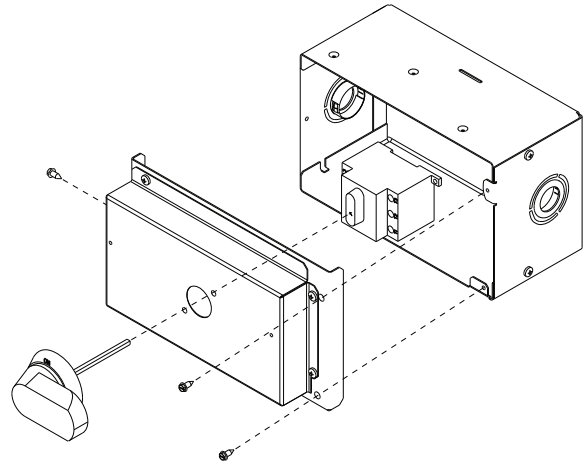

Fig. 30 — Handle and Shaft Assembly for NFD
2. Remove (3) hex screws on the NFD enclosure - (2) on the face of the cover and (1) on the left side cover. See Fig. 30.
10. Secure the handle to the painted cover with (2) screws and lock washers supplied.
11. Engaging the shaft into the handle socket, re-install (3) hex screws on the NFD enclosure.